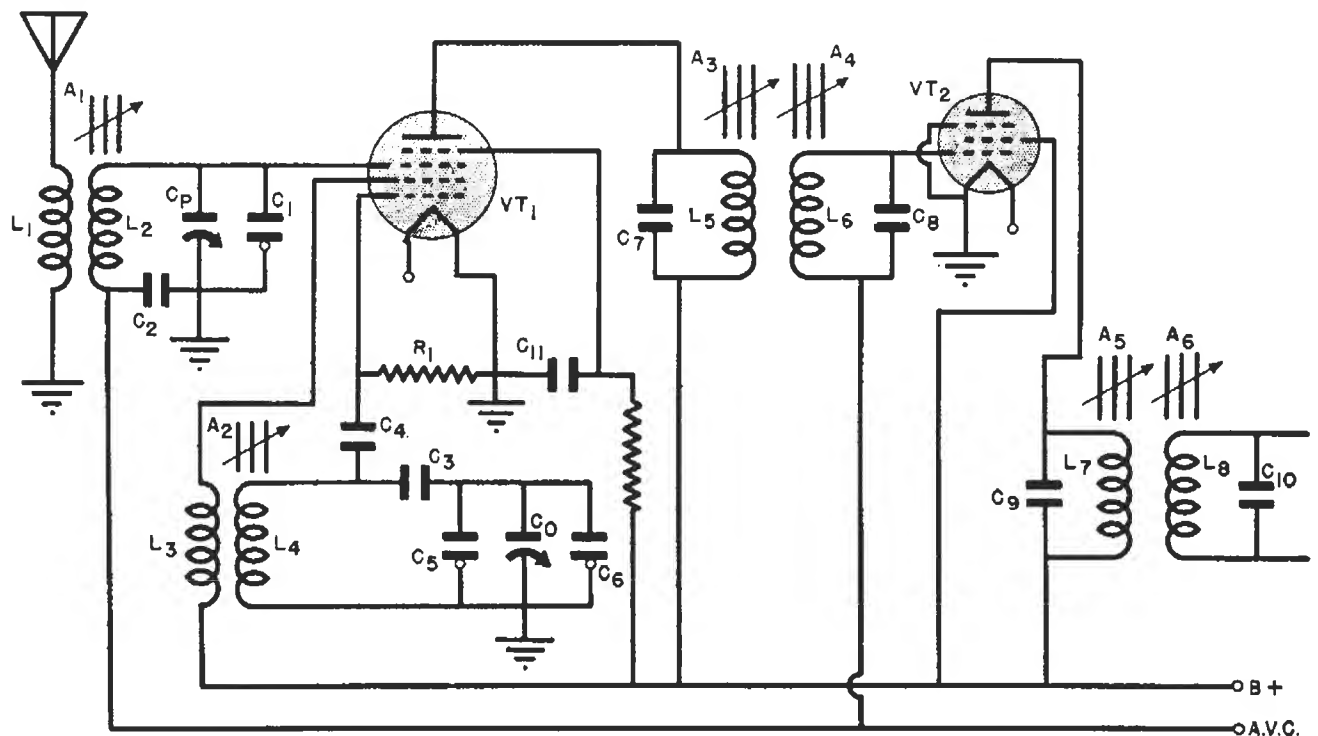

FIG. 9. Movable powdered-iron cores are used as the alignment adjusters here.
A number of receivers, such as the battery receiver of Fig. 9, use powdered iron adjustable cores in the coils to give alignment.
9. Why is rocking unnecessary for the circuit shown in Fig. 9? *open the widest*